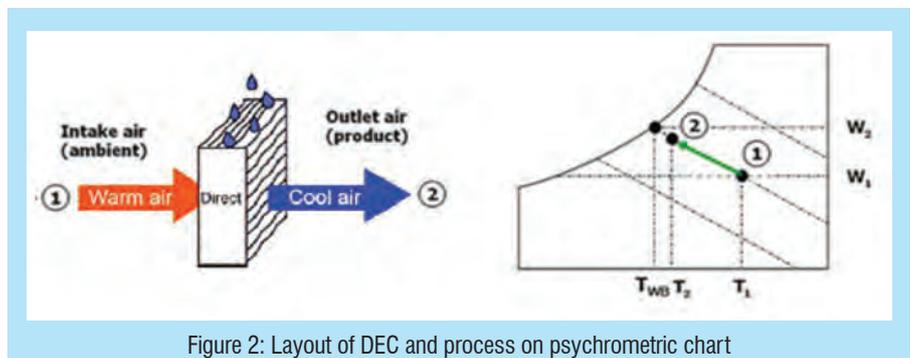

Figure 2: Layout of DEC and process on psychrometric chart
In the direct evaporative cooling, the process or conditioned air comes in direct contact with the wetted surface and gets cooled and humidified. Figure 2 shows the schematic of the direct evaporative cooling system and the process on a psychrometric chart. The unsaturated warm inlet air (1) enters in a pad that is sprayed with water and gets cooled and dehumidified due to the simultaneous transfer of sensible and latent heats between air and water. The heat is transferred by the air stream as